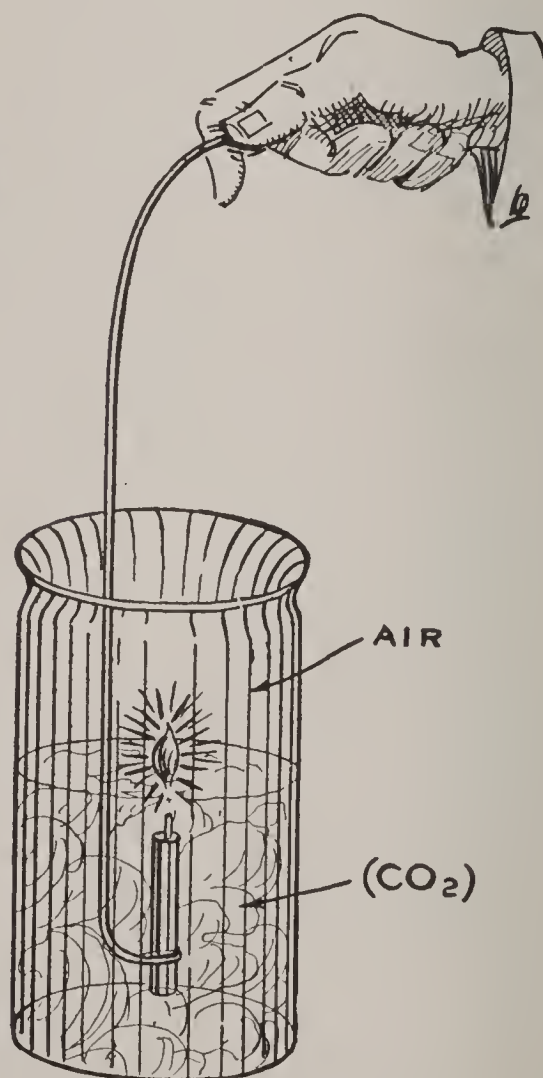

FIG. 59.—Separating the Flame of a Candle from its Wick.
How the Experiment Works. This strange effect, which is shown in Fig. 59, is due to the fact that the heat of the wick lasts long enough to vaporize the paraffin of which the candle is made for a few moments after it is submerged in the gas, the hot vapor from it ascends through the latter, where it is supplied with oxygen (O) from the air.